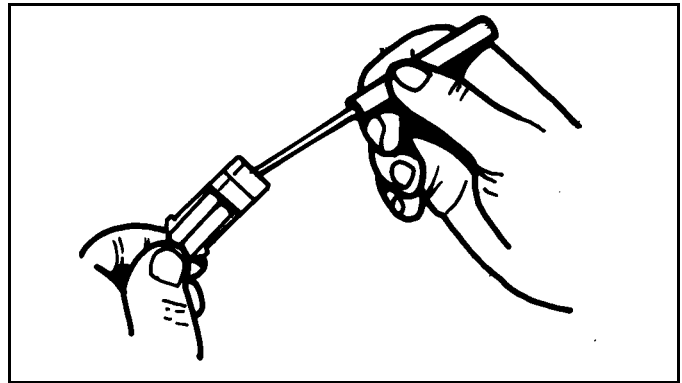

Figure 3-7
3. Use Terminal Removal Tool (#96102499) to remove contact from connector body. (See Figure 3-7)